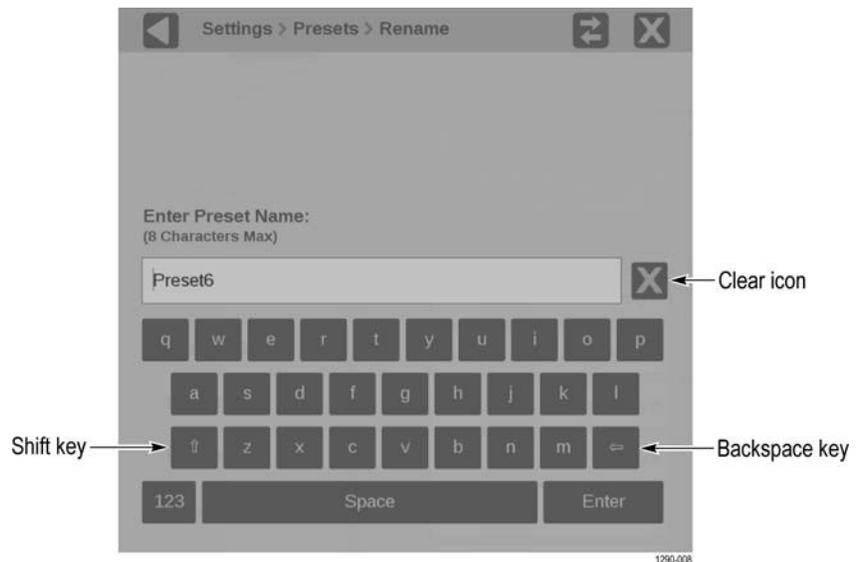

Figure 66: Editing a Preset name
- e. Select the preset name box you want to change. The editing display opens as shown in Figure 66.